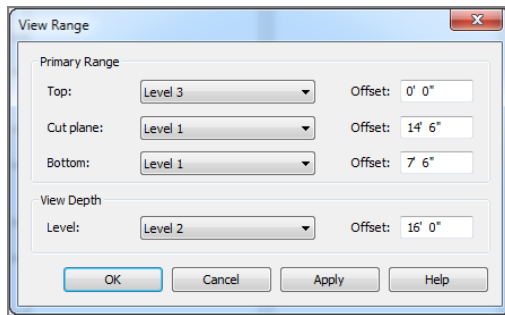

FIGURE 9.14: Configuring the view range for the crop region
5. Set View Depth Level to Level 2 with an Offset value of 16'-0" (4800mm), as shown in Figure 9.14.